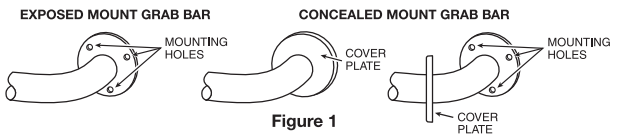

Figure 1
- Remove Grab Bar and parts from the package. If concealed mount grab bar is used, move cover plates away from mounting holes (see Figure 1).
- If concealed mount Grab Bar is used, move cover plates over mounting holes and firmly press against the wall (see Figure 1).